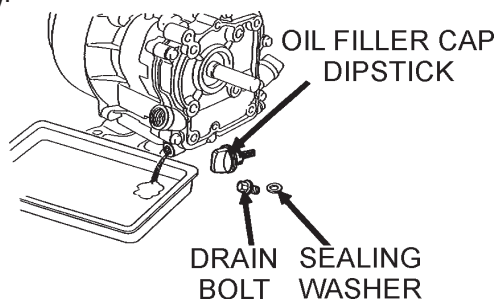

Figure 20. Engine Oil (Draining)
1. Drain the engine oil when the oil is **warm** as shown in Figure 20.
2. Tap the paper filter element (Figure 20) several times on a hard surface to remove dirt, or blow compressed air [not exceeding 30 psi (207 kPa, 2.1 kgf/cm2)] through the filter element from the air cleaner case side. **NEVER** brush off dirt. Brushing will force dirt into the fibers. Replace the paper filter element if it is excessively dirty.